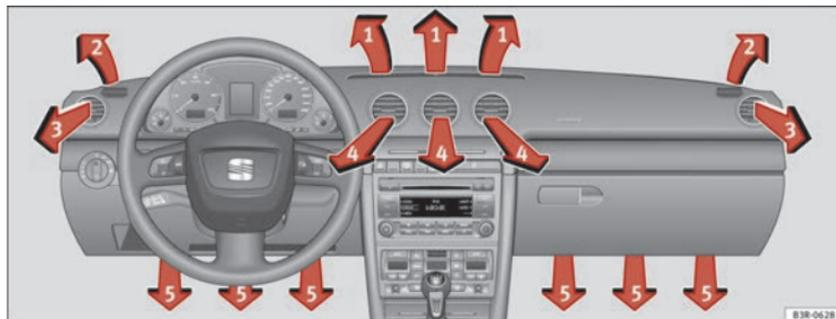

Fig. 131 Dash panel: Location of air outlets
The air outlets ⇒ Fig. 131 ③ and ④ can be operated as follows:
Each of the three buttons has a specific function. The numbers relate to the air outlets ⇒ Fig. 131. ▶
After the ignition is switched off, the blower is supplied with electrical power from the sunroof. Please ensure that outlets 3 and 4 are open ⇒ Fig. 131 to ensure the best possible ventilation.